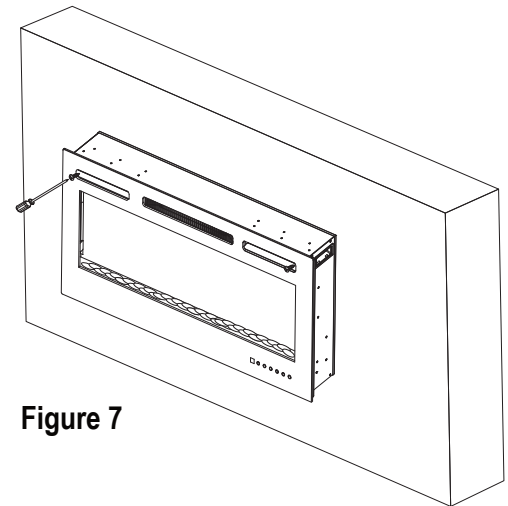

Figure 7
- I. Reinstall the front glass using the screws that were removed during Step C. Ensure the glass is fully secured and stable before operating the unit. [Figure 7]